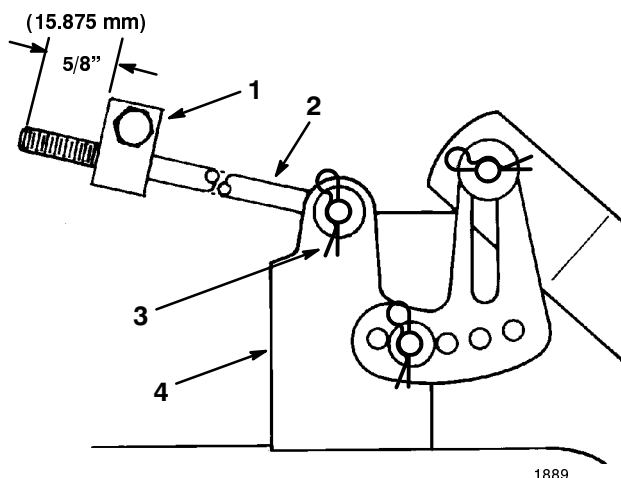

Figure 48
5. Measure the length of the rod extending out the front of the adjusting block on the sides of the chassis (Fig. 48). If the rod length is not $5/8''$ (15.9 mm), remove the hair pin cotter and washer from the end of the rod (Fig. 48), and turn the rod until the $5/8''$ (15.9 mm) dimension is obtained. Then install the end of the rod into the hole in the mower mount and secure in place with washer and hair pin cotter. Repeat this procedure on the opposite side of the mower.